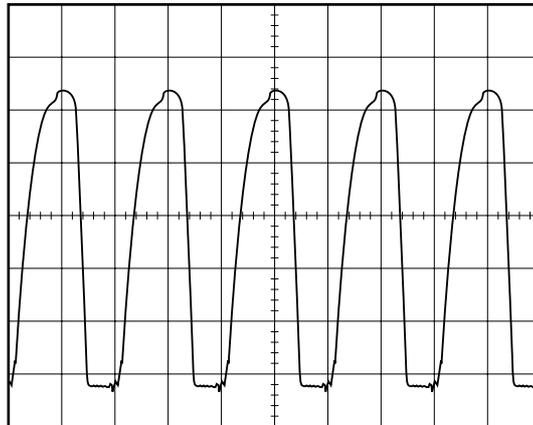

Figure 29. IR link, 1kHz sine wave to **Clock in**.
- 18 Check that the waveform is approximately as in figure 29. Amplitude > 2,5 V_{p-p}.